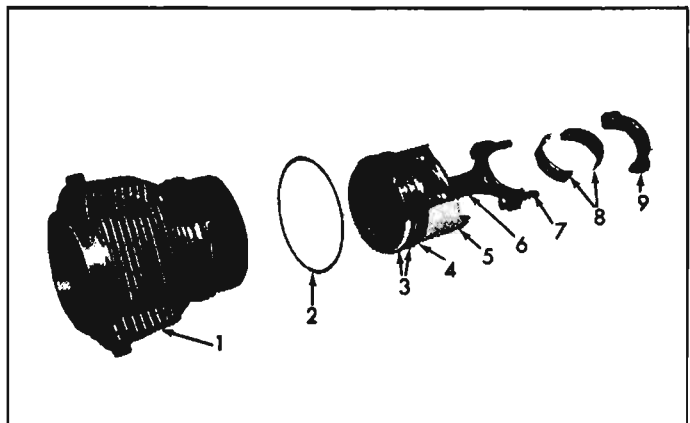

Fig. 6A-73—Piston, Connecting Rod and Related Parts
1. Remove pump cover attaching bolts, cover, gasket, idler gear and drive gear and shaft (fig. 6A-74).